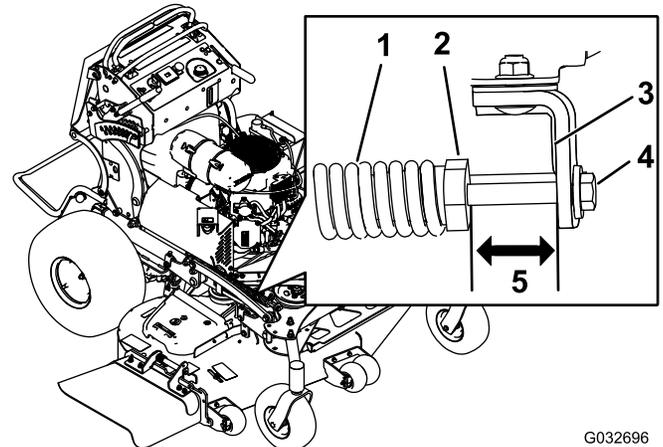

Figure 96
2. Check the distance between the spring nut and the rear side of the welded mount bracket (Figure 96).
3. Ensure that the length is 51mm (2 inches) for 48/52in decks, and 38mm (1.5 inches) for 60in decks as shown in Figure 96.
4. If needed, adjust the distance by adjusting the bolt on the front of the mount bracket (Figure 96).